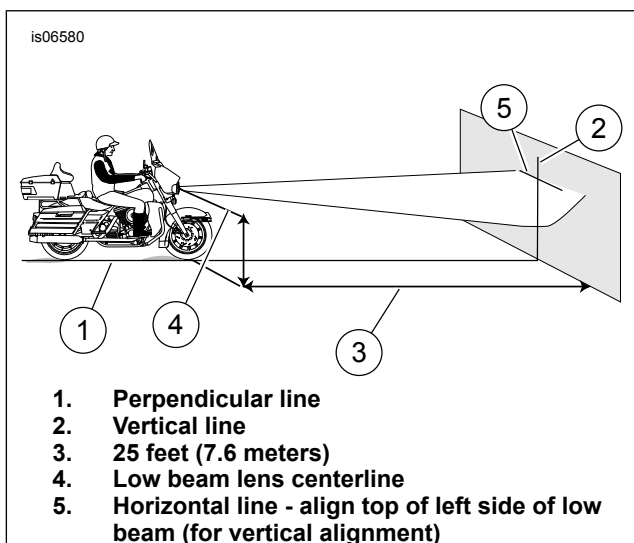

Figure 2. Checking Headlamp Alignment
3. See Figure 2. Position motorcycle so front axle is 7.6 m (25 ft) (3) from wall.
4. See Figure 2. With vehicle laden and upright, point the front wheel straight forward at wall. Measure the distance from the floor to the center of the **low beam** lens (4). Record this measurement.